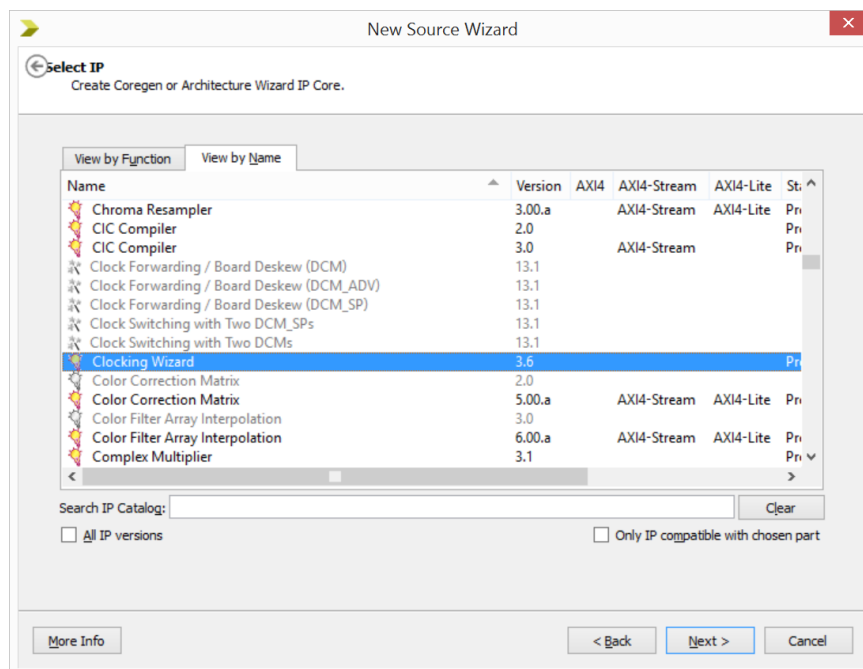

Figure 6-17
**Solution:** Step-1) Open a new project and create a main VHDL design, name it as “Clock\_Manager”. This design should have an input port for 100 MHz clock and a output port for 300 MHz clock signal. Clocking Wizard IP core is suitable for such an aim. Add a new source as represented in Figure 6-2 and name it as “clock\_manager\_core”. After typing core name click **Next**. Click **View By Name** option in the window as seen in Figure 6-17 and choose **Clocking Wizard** IP core. Click **Next**.